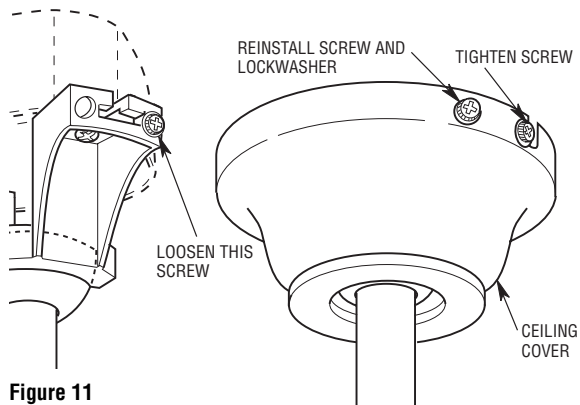

Figure 11
- 1. Lift the ceiling cover up to the hanger bracket. Engage the slots in the ceiling cover with the loosened screws in the bracket and turn the cover counterclockwise (Figure 11). Be sure that the lockwashers are between the screw heads and the ceiling cover.